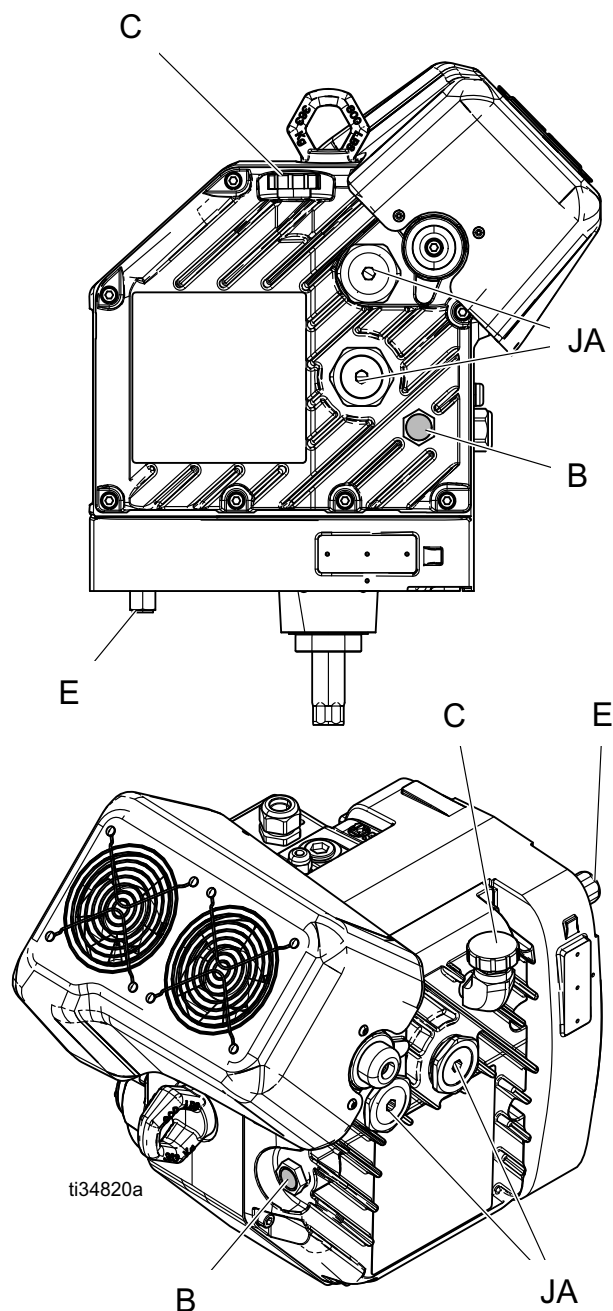

FIG. 8: Sight Glass and Oil Fill Cap
1. Place a minimum 2 quart (1.9 L) container under the oil drain port. Remove the oil drain plug (E). See FIG. 8. Allow all oil to drain from the driver.
2. Reinstall the oil drain plug (E). Torque to 18-23 ft-lb (25-30 N•m).
3. Open the fill cap (C) and add Graco Part 16W645, ISO 220 silicone-free synthetic EP gear oil. Check the oil level in the sight glass (B). Fill until the oil level is near the halfway point of the sight glass. Do not overfill.
See FIG. 8. The bearing pre-loads (JA) are factory-set.